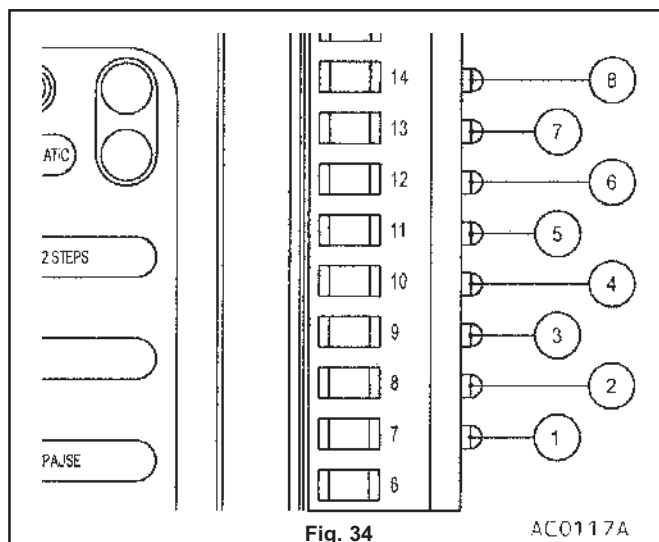
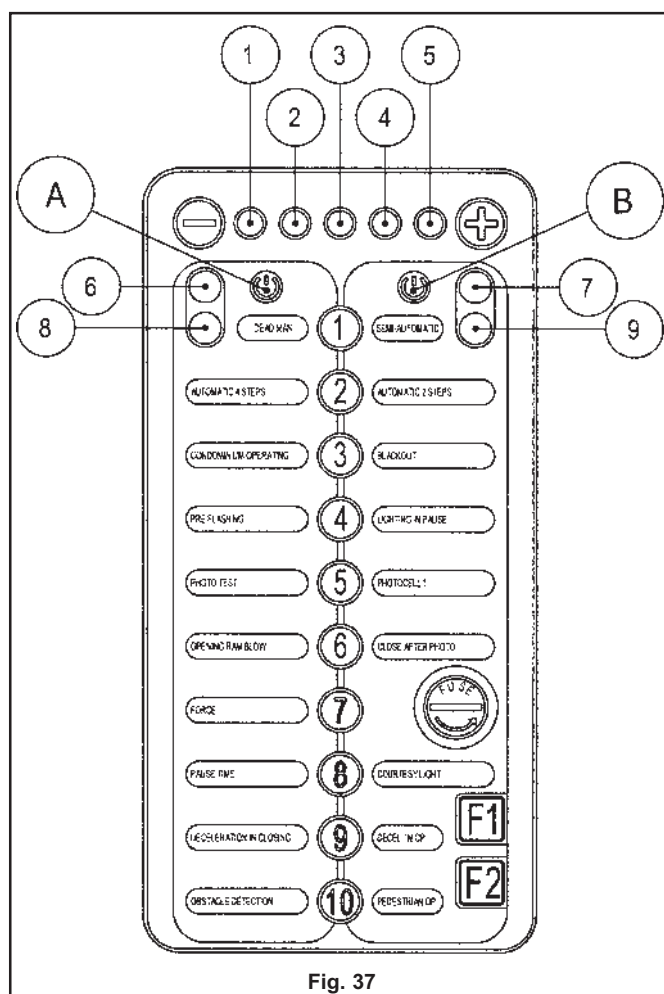

Fig. 34
Fig. 37
A row of 8 leds (fig. 34) is present on the right hand side of the board, beneath the terminals.
Leds L7...L14 (fig. 34) are lit when the corresponding signal is present, therefore normally closed commands will normally be lit and vice versa. These leds therefore indicate a malfunction of the devices connected.
The keyboard (fig. 37) on the control unit makes it possible to set all the functions necessary for a safe and controlled functioning of the automation.
- The selection of the left or right keyboard is made by pressing one of the two buttons bearing the switch symbol: the button (A fig. 37) enables the <LEFT KEYBOARD>, and button (B fig. 37) selects the <RIGHT KEYBOARD>.
- When the keyboard is selected, the red (8 and 9 fig. 37) and green (6 and 7 fig. 37) leds flash alternating with one another, it is possible to set the corresponding parameters with the keys 1 to 10.
- The row of horizontal red leds (from 1 to 5 fig. 37) indicates the value set for a given parameter: the more leds that are lit, the higher the parameter. They can also be used as a status signal for certain parameters.
- The lateral red leds (8 and 9 fig. 37) indicate a state of parameters not set if they flash, whereas they indicate the reading of the limit switch signal (right or left) when they are on (fixed red light).
- The lateral green leds (6 and 7 fig. 37) indicate a parameters set status or correct functioning according to the keyboard selected.
- Press and hold down the – (minus) key and key 7 simultaneously, and close the release hatch so as to allow power supply to the control unit.**
- When led 1 in fig. 37 switches on the identification process has been successful and the keys can be released.
- Check that the 2 red <OFF> leds (8 and 9 fig. 37) flash and that 4 of the 8 side leds have a fixed light (fig. 34):
- As soon as the closure limit switch is reached (gate completely closed) release the command; one of the two red <OFF> leds (8 and 9 fig. 37) signals the reaching of the closure limit switch and adopts fixed light conditions.
- Ensure that green leds 6 and 7 (fig. 37) flash to indicate that a speed value has been stored.
- Check that led 8 or 9 of the keyboard (fig. 37) indicate the reaching of the limit switch with a fixed light for both opening and closure.